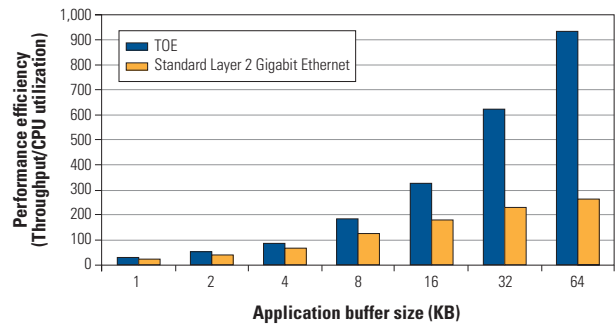

Figure 3. Performance efficiency: TOE-enabled Gigabit Ethernet NIC versus standard Layer 2 Gigabit Ethernet NIC
The ratio of network throughput to CPU utilization can be expressed as the performance efficiency (PE) index, which was originally developed by *PC Week* (now *eWEEK*) in 1995. The PE index is a commonly used performance metric for evaluating network adapters. For example, high PE indexes indicate high throughput with low CPU utilization, suggesting favorable overall system performance. As Figure 3 indicates, the PE index of the TOE NIC in the test environment described in this article exceeded the PE index for the legacy Layer 2 Gigabit Ethernet NIC for every network I/O size from 1 KB to 64 KB.